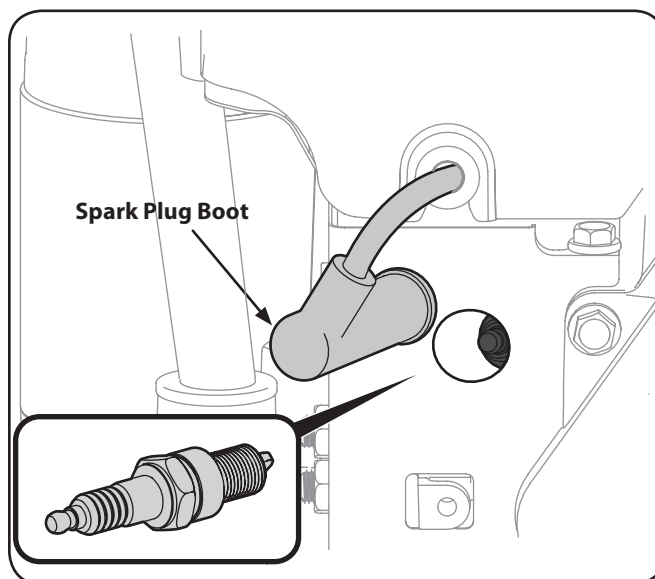

Figure 6-9
1. Remove the spark plug boot and use a spark plug wrench to remove the plug. See Figure 6-9.